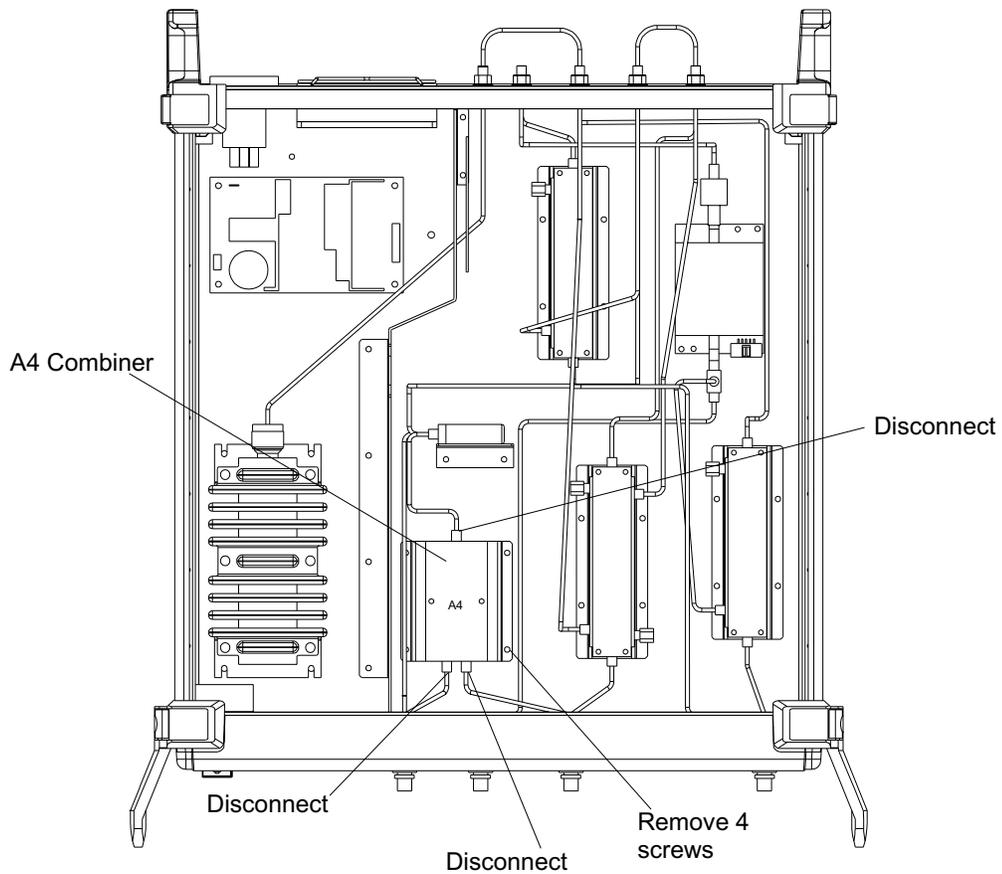

Figure 5-4. A4 Combiner Removal
- Step 2.** Disconnect the three connectors (Figure 5-4).